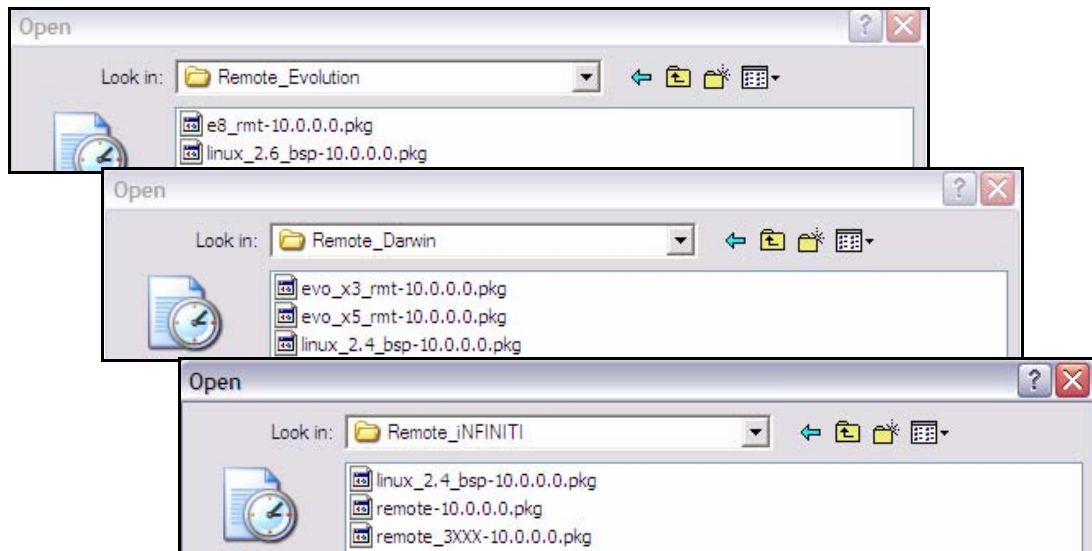

Figure 16. Remote Packages for Satellite Router Models
11. You must download two packages to your Satellite Router: the Linux Board Support Package (BSP) and the correct remote image package. Figure 16 shows the packages for each Satellite Router model supported in iDX Release 2.0.